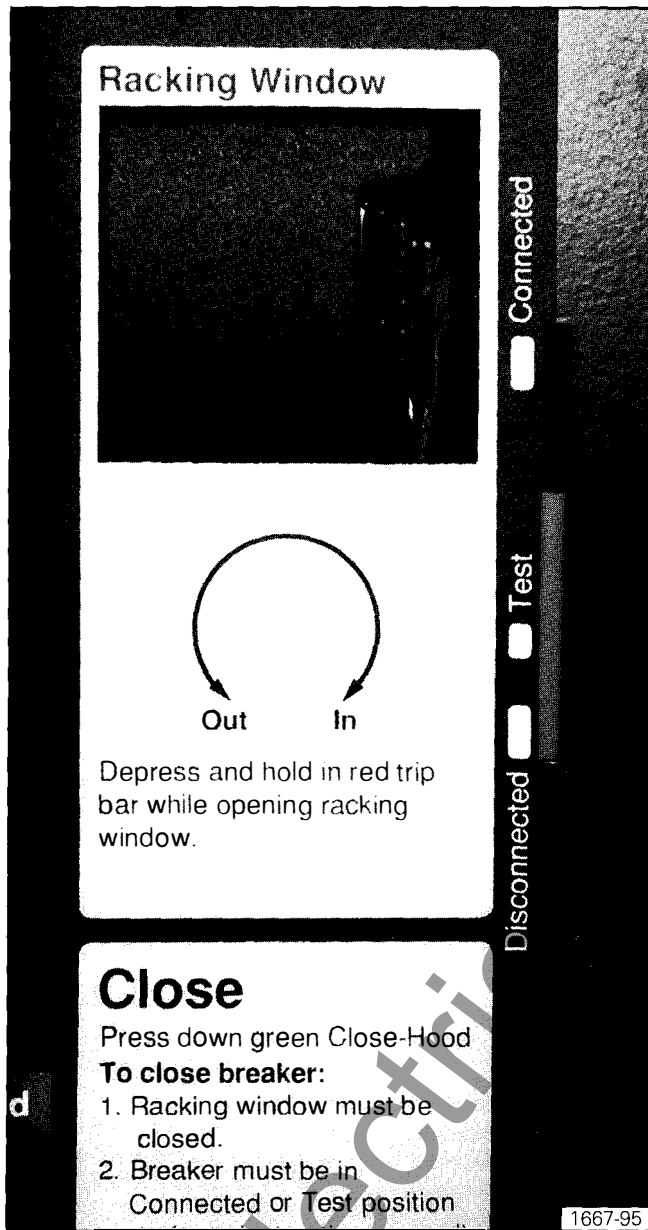

Figure 31. Circuit Breaker Position Indicator (Breaker shown about halfway between Test and Connected positions)
2. Depress red trip bar on front of the breaker and hold in depressed position. Open racking window (see **Figure 31**) by pushing the interlock slide to the left, exposing the end of the racking screw. The breaker is trip-free (i.e., it cannot be closed) when the interlock slide is open.
Counter-clockwise rotation of crank will move breaker from connected position toward test and disconnect position. A position indicator is located on the front of the breaker mechanism cover, just to the right of the racking screw/interlock slide opening. This position indicator is shown in **Figure 31**. The breaker movement relative to the connect, test and disconnect positions may be observed while turning the racking crank. In addition a detent has been provided to properly align the breaker in the test position. When the breaker is in the connected or test position and the interlock slide is closed, the breaker is in its operating mode and can be closed.